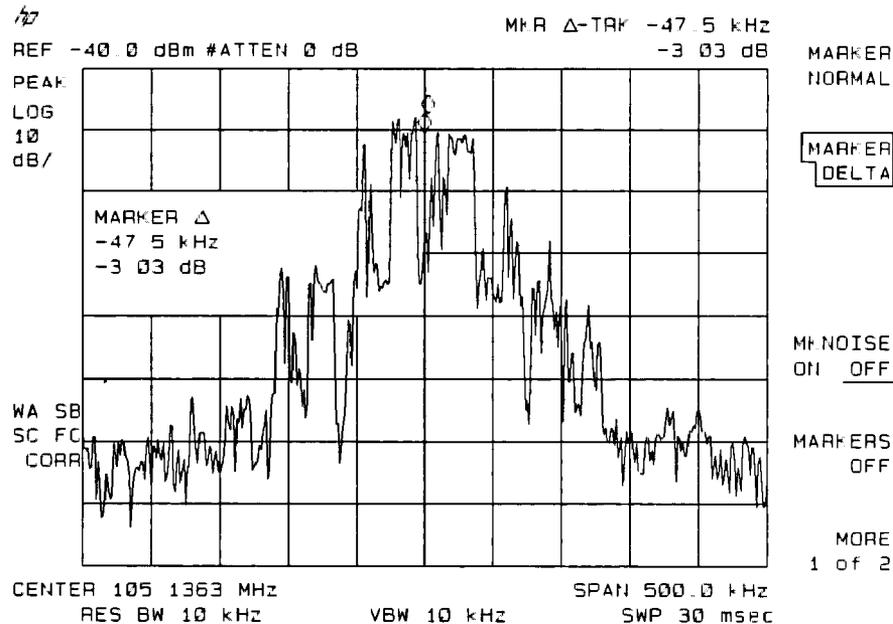

Figure 6-8. Using Signal Tracking to Track an Unstable Signal
5. The signal frequency drift can be read from the screen if both the signal track and marker delta functions are active. Press **MARKER**, **MARKER DELTA**, **SIGNAL TRACK**; the marker readout indicates the change in frequency and amplitude as the signal drifts. (See Figure 6-8.)